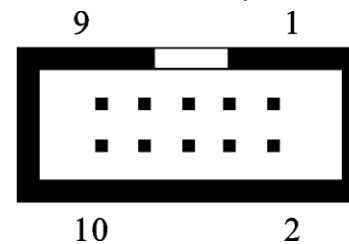

Fig. 4-2
- The 10-pin dual socket of serial panel is as Fig. 4-2 shows: